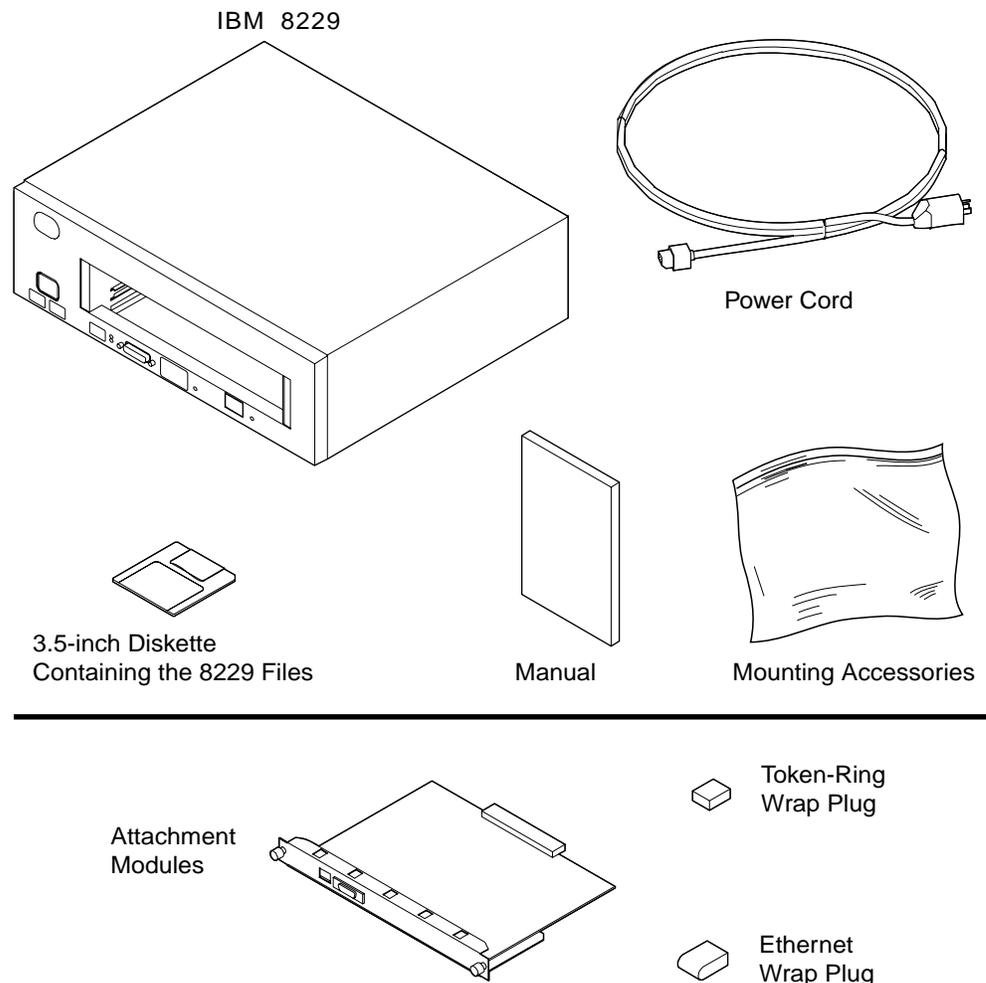

Figure 3-1. Contents of the Shipping Carton for the Single-Port Token-Ring Attachment Module
3. Make sure that you have everything (see Figure 3-1).